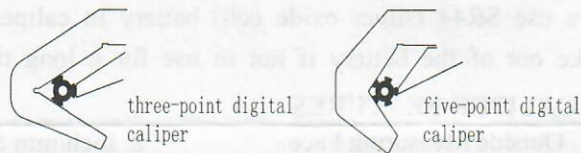

figure 2
2. Put the tested three-point/ five-point into the jaw and press it (see figure2), so the value of tested outside diameter is easy-to-read.